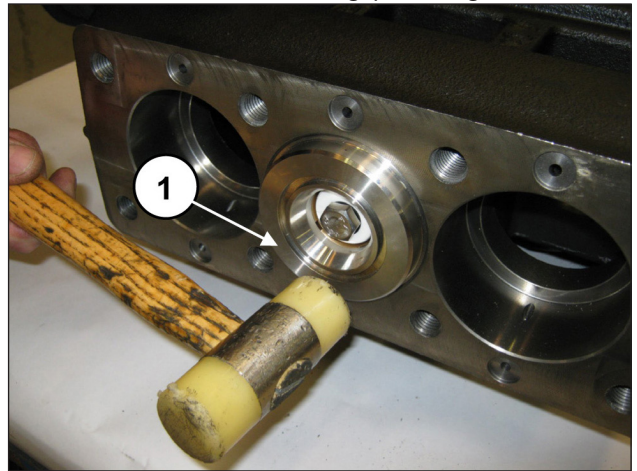

Fig. 186
Ensure that the liner-support block is positioned correctly down to the bottom of the housing (pos. ①, Fig. 186).